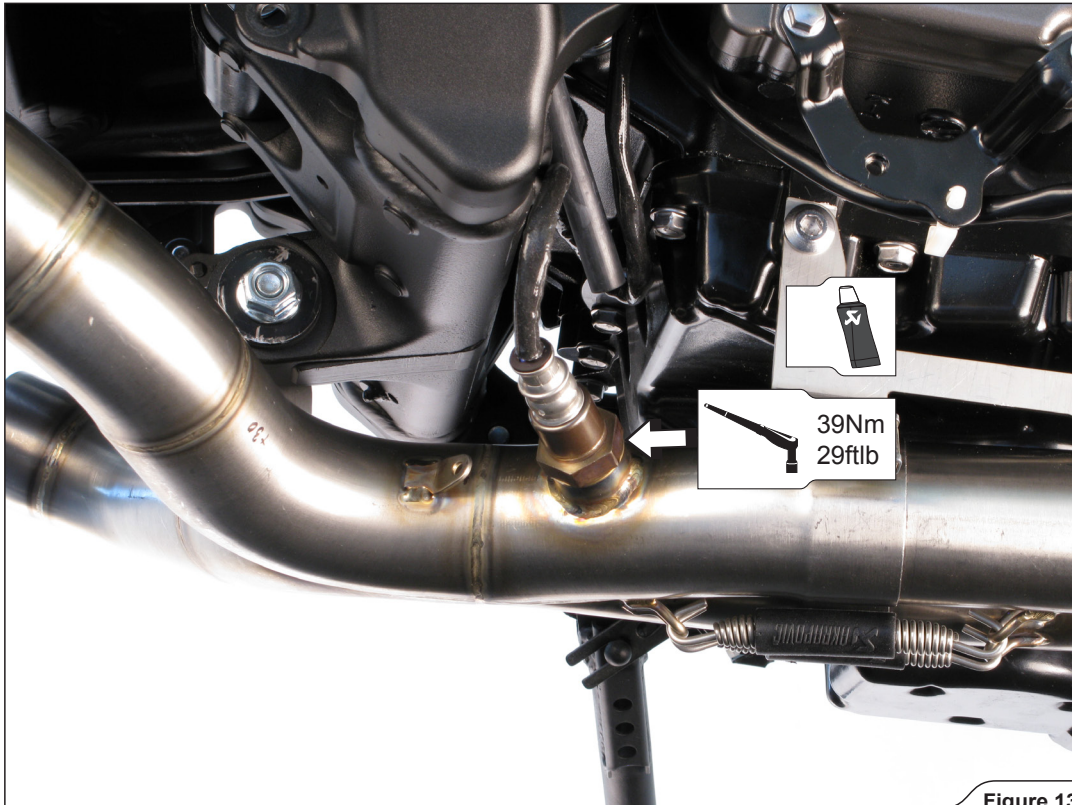

Figure 13
6. Reinstall the lambda sensor (**Figure 13**).